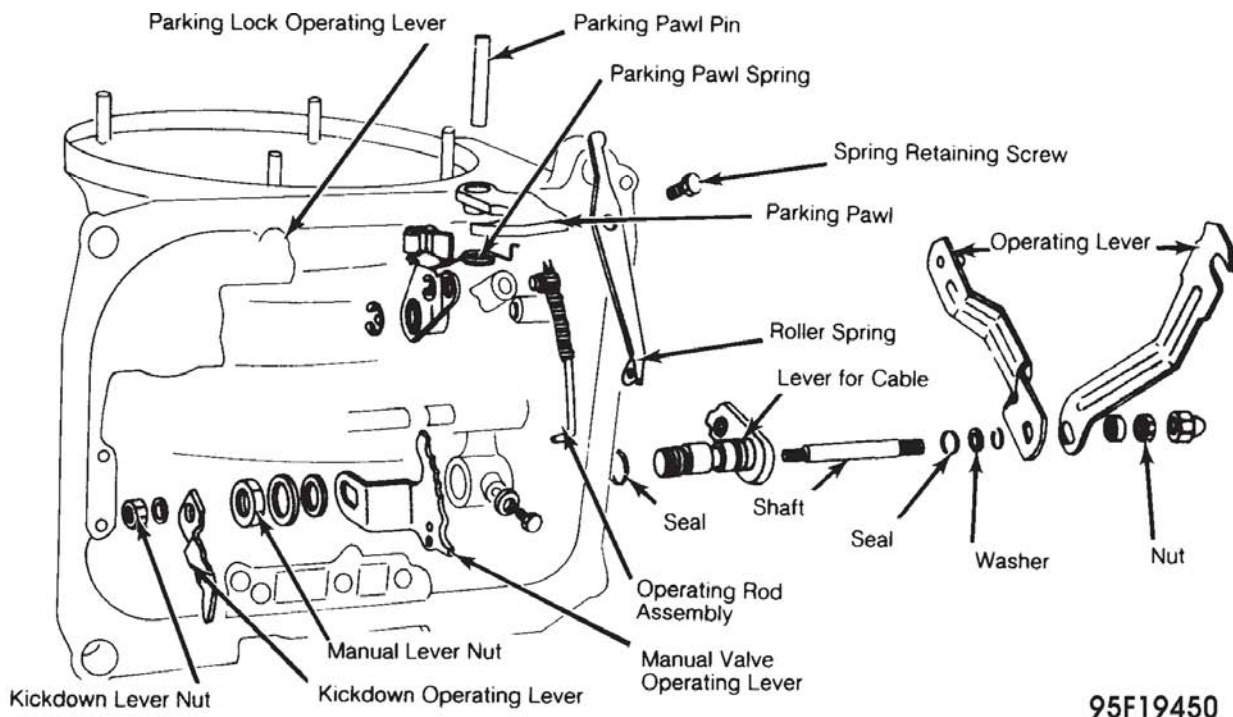

Fig. 4: Bottom View Of Transaxle Case Showing Parking Lock, Kickdown & Manual Valve Linkage
4. Detach large manual lever retainer nut, with flat and lock washers, from cable lever. Slide manual lever off of cable lever. If necessary, pull cable lever from transaxle case. Detach shaft and operating levers as needed. Discard "O" rings. See **Fig. 4**.
12. Remove 11 hex-head mount bolts from valve body. Lift valve body from case. Use care not to lose manual valve. Withdraw accumulator spring and piston from case. If necessary for parts replacement, disassemble parking lock, kickdown and manual valve linkage. See **Fig. 4**.